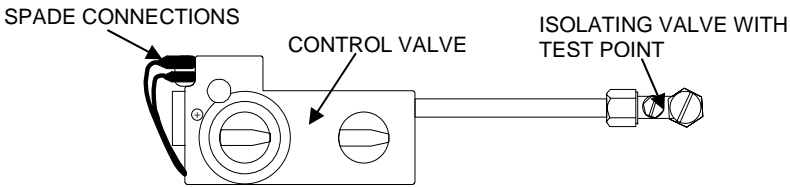

FIGURE 32 CONTROL & ISOLATING VALVE
3. Feed the cable from the receiver unit to the spade terminals on the control valve motor. Keep the cable clear of the underside of the combustion chamber, failure to do so may cause heat damage to the cable. The cable connectors must be matched to the appropriately sized spade connector, one large, one small. (see **Figure 32**).